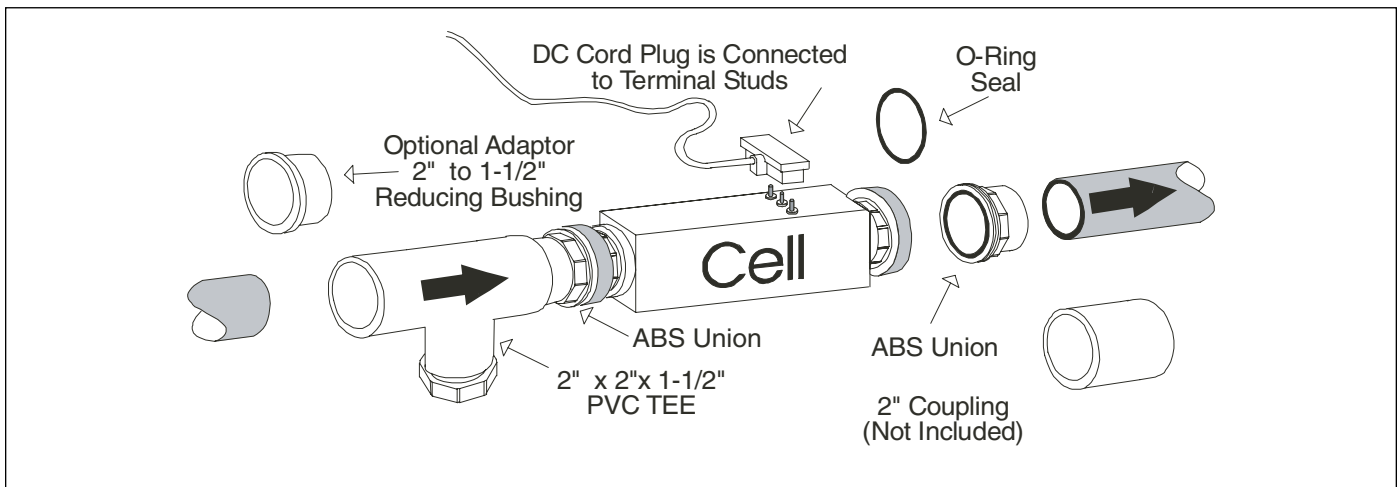

Figure 11. Cell Installation
2. It is recommended that the Flow/Temp/Salinity Sensor and Electrolytic Cell be installed in the pool return line after the filter and heater. Water passes through the Flow/Temp/Salinity Sensor before the Cell. The Cell can be installed in either a horizontal (as shown in Figure 11) or a vertical position.